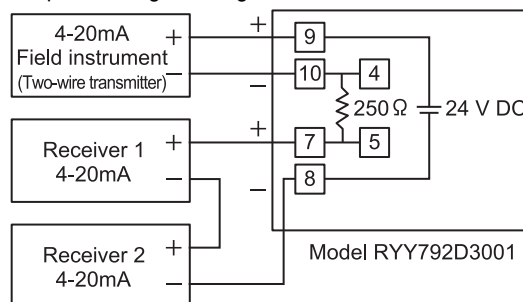

Figure 3-6. Connection diagram
*1 Signal (4-20 mA) of two-wire transmitters can be checked by the 1-5 V DC testing terminals. However an internal resistance (250 Ω) will be added, so be aware that the total resistance should be within the two-wire transmitter's allowable load resistance (see Fig. 3-6).